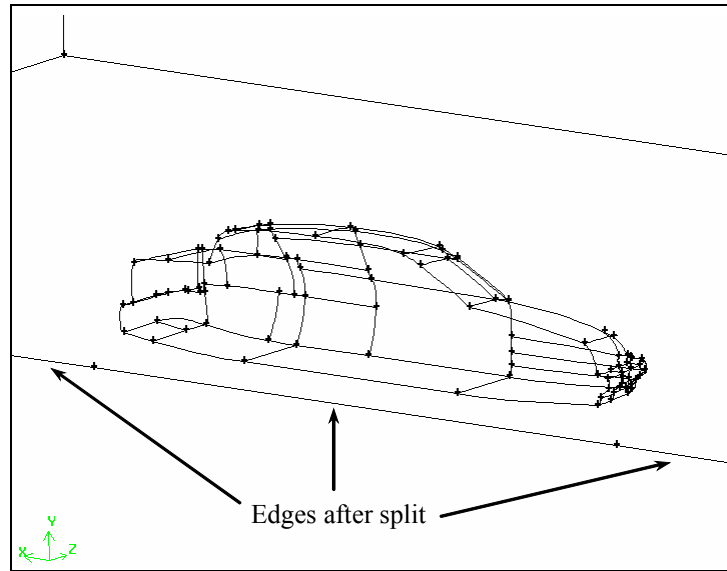

Figure 5-18: Bottom edge of symmetry plane is split into three edges
- c) Use the **Ctrl** key and the left mouse button to zoom in to the sedan and the line at the bottom of the symmetry plane, similar to the view shown in Figure 5-18.
The edge is split into two parts and a vertex is created near the front bumper of the sedan, as shown in Figure 5-18.
The edge will be split and a second vertex created near the rear bumper of the sedan, as shown in Figure 5-18.